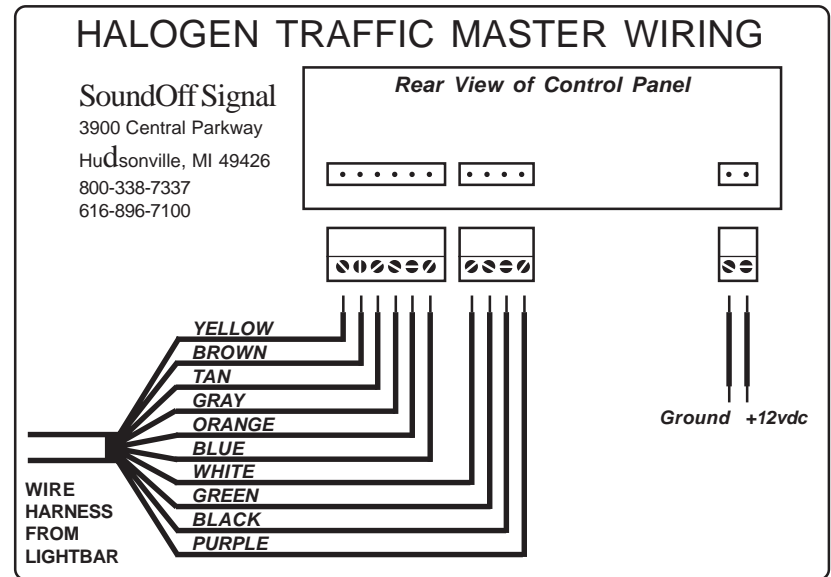

Figure 5 (Rear View of Control Module)
- 4) Attach the power and ground wire to the appropriate pins in the 2 pin socket housing as shown in figure 5 (next page).